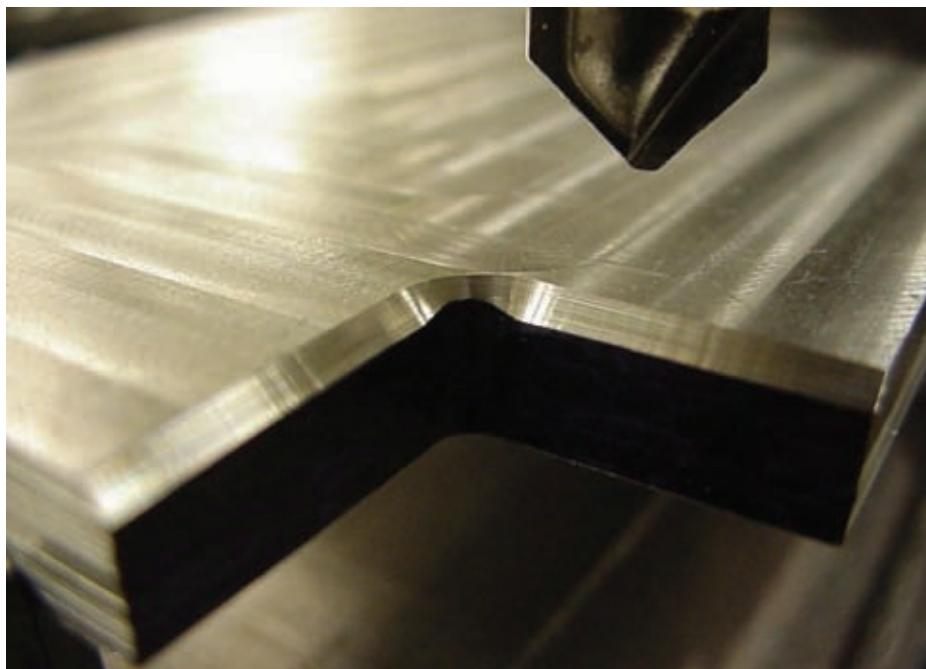

Figure 4-4 This example shows an inconsistent chamfer on an inside radius. The Z height of the chamfering tool wasn't set correctly.
3. If you offset a chamfering tool to cut cleanly, the depth of the tool must be correct. (see Fig. 4-4)
If the depth is not correct, the chamfer can produce inconsistent chamfers on inside radii. In Figure 4-4, the chamfer is consistent except on the inside radius. The depth of the chamfering tool was not set properly to match the inside radius.